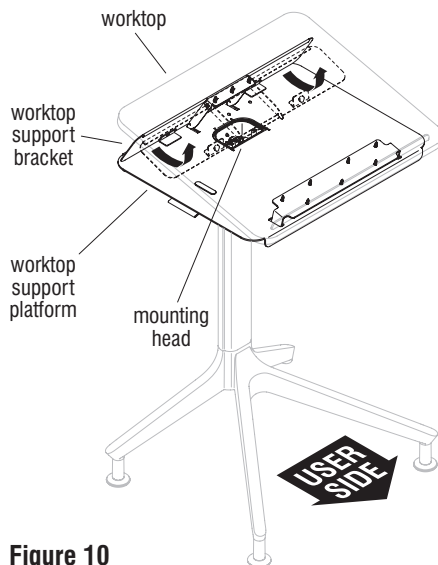

Figure 10
1. Begin mounting head cover installation at the back, non-user side of the lectern. While facing the back, lift the worktop up to disengage the worktop support bracket from the worktop support platform. Next, flip the worktop support bracket up against the underside of the worktop and continue to hold it up to gain access to the top of the mounting head (Figure 10).